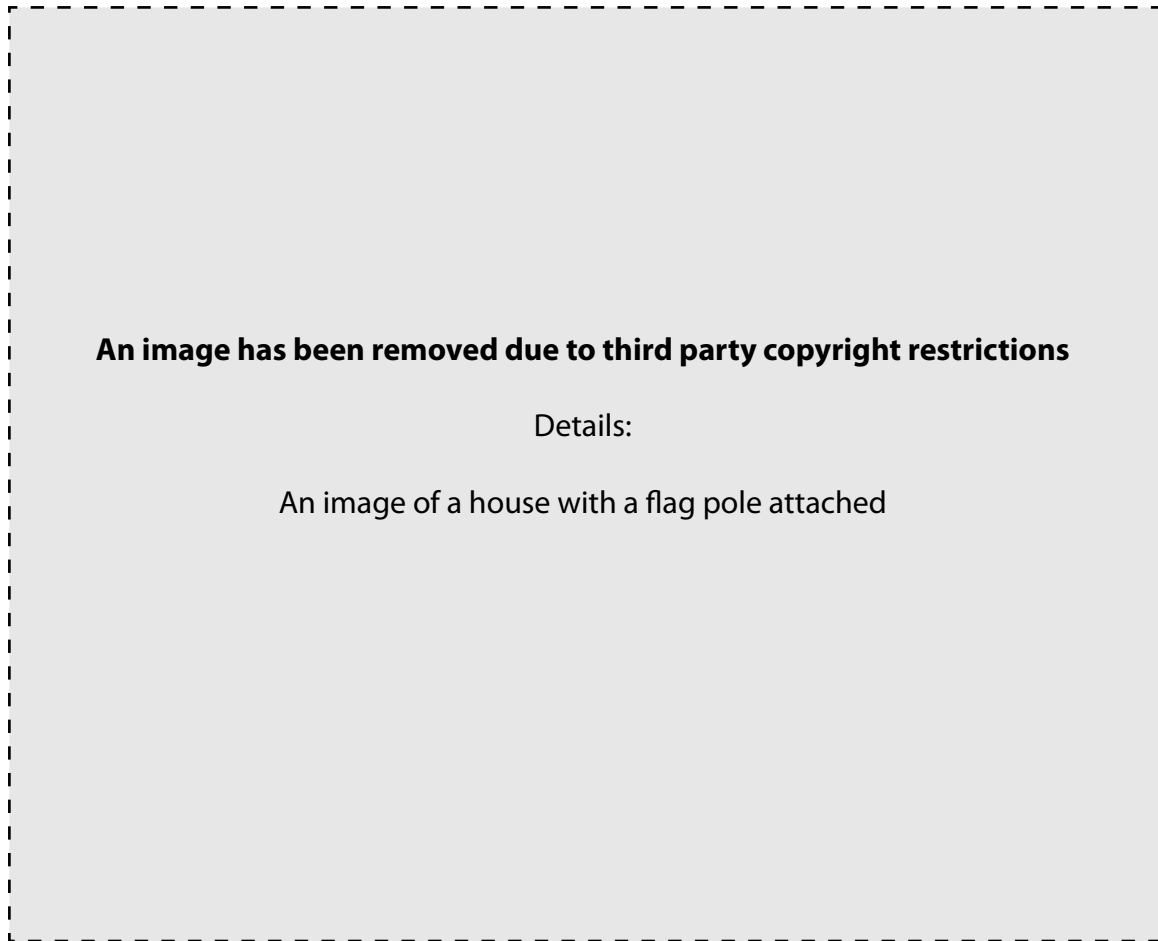

Fig. 5
- 3 Fig. 5 shows a wall bracket designed to hold a flag pole.